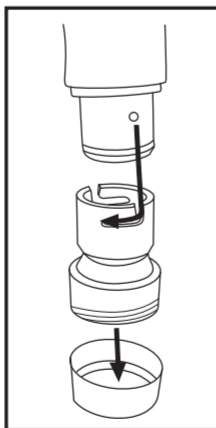

Fig. 6: V-199 Adapter
- Note:** If using a BT series breathing tube, first screw the 3M™ V-199 adapter into the outlet port of the air control device. Position the breathing tube so that the two locking studs are aligned with the openings of the two L-shaped slots on the adapter outlet. Press in straight and twist so that the locking studs are engaged at the end of the L-shaped slots (Fig. 6).
Note: If using a BT series breathing tube, first screw the 3M™ V-199 adapter into the outlet port of the air control device. Position the breathing tube so that the two locking studs are aligned with the openings of the two L-shaped slots on the adapter outlet. Press in straight and twist so that the locking studs are engaged at the end of the L-shaped slots (Fig. 6).